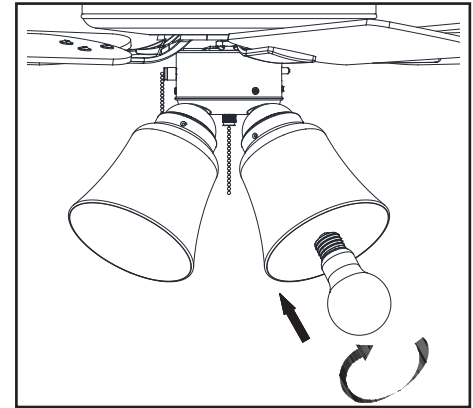

Figure 15
7. With the power off, install the four LED bulbs (max. 9W, included) into the light socket. (Figure 15)